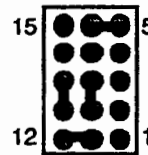

Figure 2 – Sony Disk Drive Jumper Configuration
- Customers may complain that their TS will not read some of their disks. Please be aware that High Density (HD) disks that have been formatted as Double Density (DD) on a DD drive in a unit such as an EPS, EPS-16 PLUS, or a Macintosh Plus will not be recognized in machines that have an HD drive. This would include the TS and ASR-10, as well as an IBM PC or clone.
- **SONY DRIVES:** On some TS units, Sony MPF420-1 disk drives were used. If you are replacing a Panasonic disk drive with a Sony disk drive you must order a new 34-pin cable. Make sure that the jumpers on the bottom of the Sony drive are as shown in Figure 2.